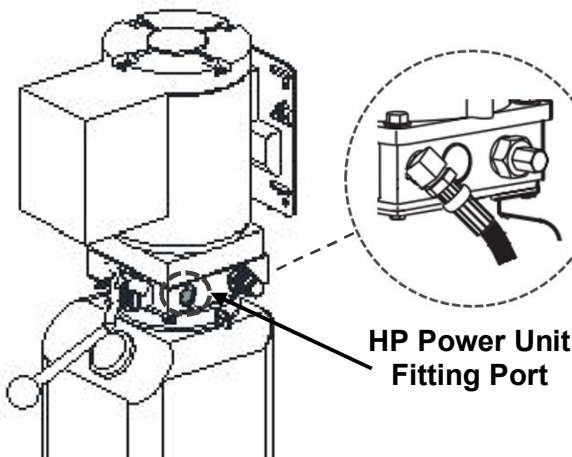

Fig. 25
- 4) Install 90 degree Power Unit Fitting to HP Port on left side of Power Unit, shown in Fig. 25. Position & tighten Power Unit Fitting at a 45 degree back-angle, towards the lift.